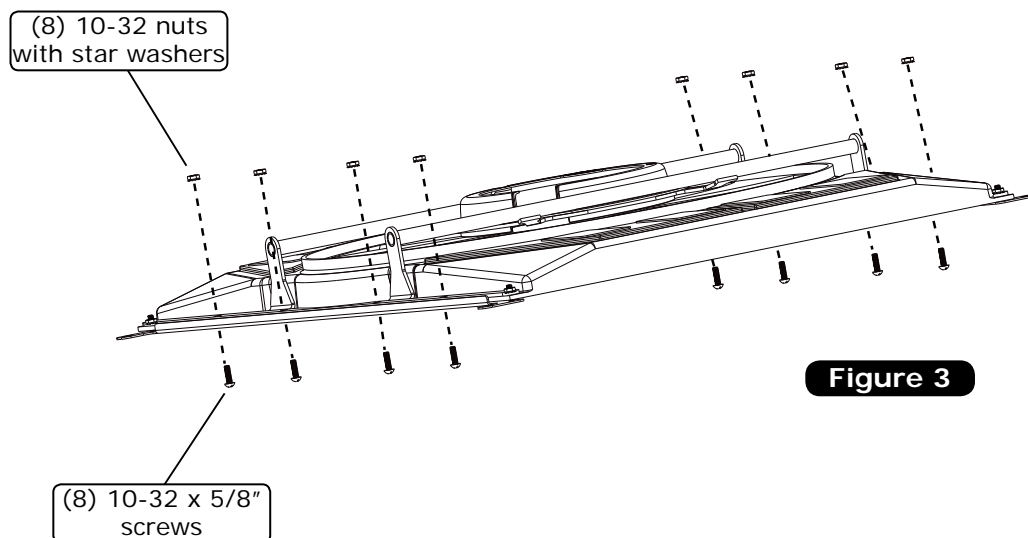

Figure 3
7. Once all (8) holes are drilled, install (8) 10-32 x 5/8" screws into the holes. **NOTE: The screws install through the adapter bracket and shroud.** Secure using (8) 10-32 nuts with star washers (See Photo 8 and Figure 3, below).